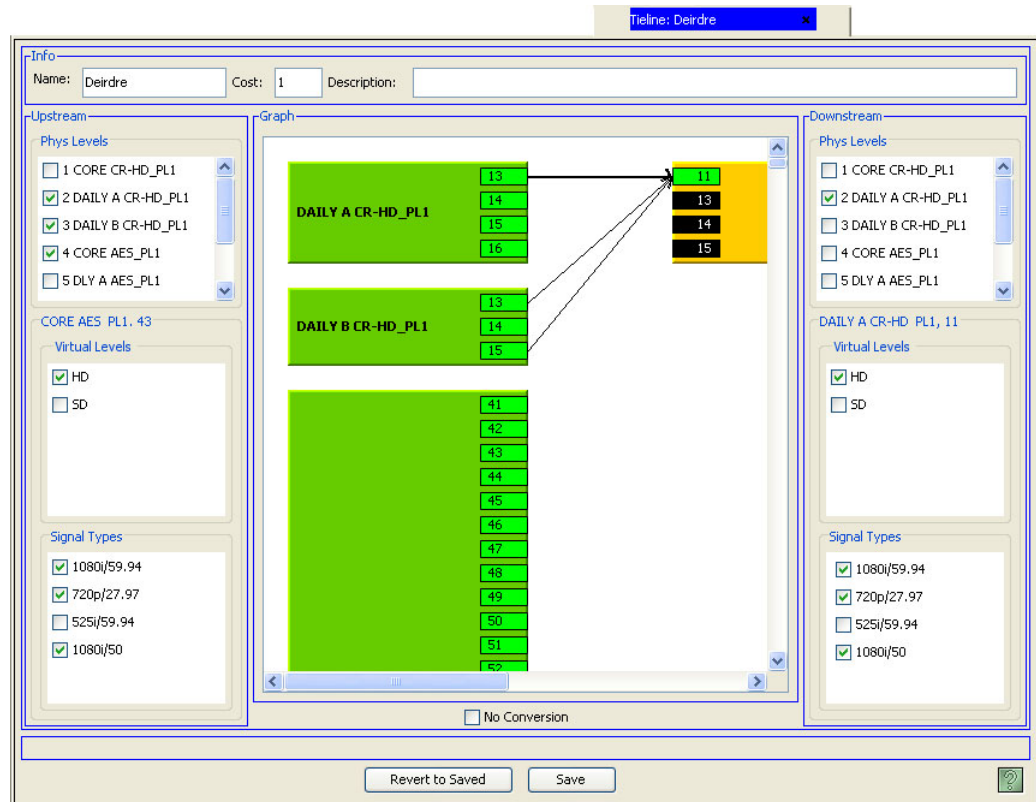

Figure 16-19. Tieline Details Page — New Tieline
- 3 In the 'Graph' section, click on an arrow. Corresponding 'Virtual Levels' and 'Signal Types' display in the related sections, as shown in Figure 16-19. Only one arrow may be selected at any one time.